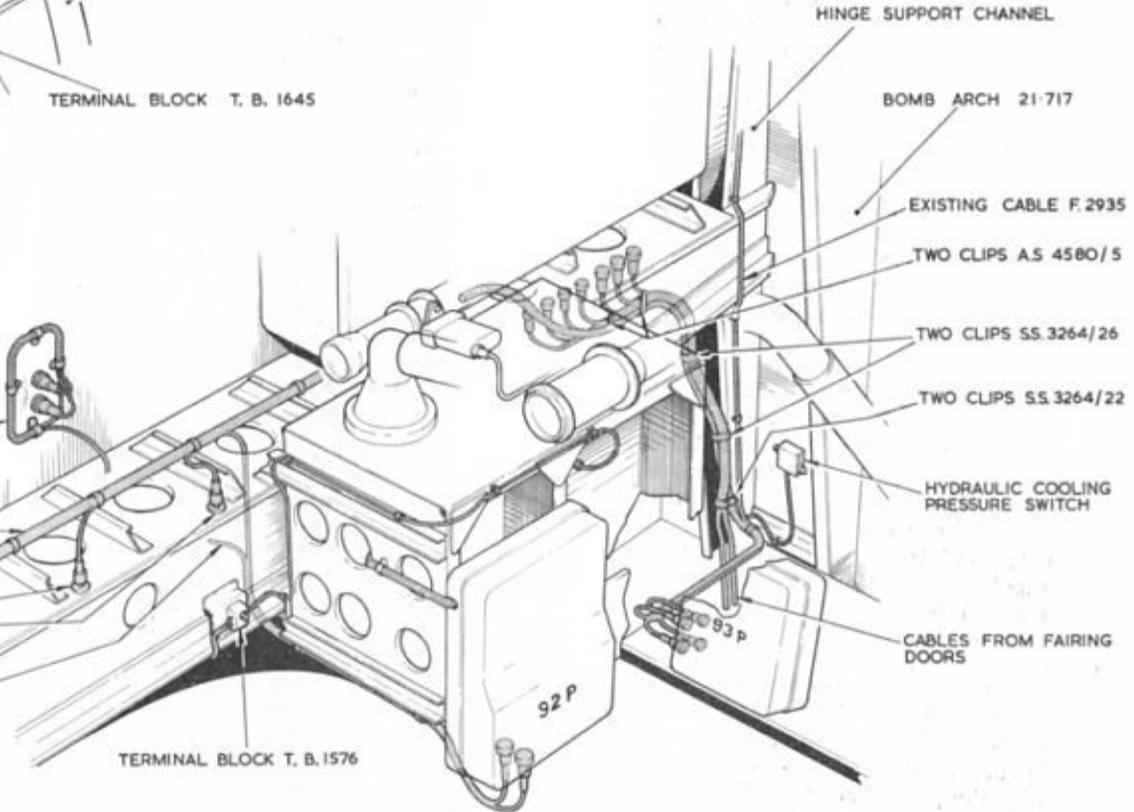

Fig. 8. Details of electrical installation
- (24) Secure the cables F3084 and F2926 to the bracket fitted on the starboard side of the forward crutch structure, using clip AS.4580/3, and coil the cables pending connection to the hydraulic unit as detailed in para.45.
- (25) Continue to route cables 3 and 4/F2929 and 3 and 4/F2931 across the beam and downwards through the lightning hole positioned second from the starboard end of the beam. Continue the cable run across the forward face of the beam and downward on the starboard bomb door hinge support channel at station 7-47. Temporarily secure the cables to the bracket fitted to the outboard angle on the beam forward face, and to the two brackets on the support channel using clips as shown in fig.8.
- (26) Locate the existing cable F2935 which is stowed on the starboard bomb bay rib forward of bomb arch 21-717 and release from the stowage.
- (27) Compare the tail lengths of cables 3 and 4/F2929 and 3 and 4/F2931 with that of cable F2935 and set accordingly.
- (28) Route branch cable 4/F2929 back along the cable run and connect to the earth point located on top of the mechanism beam, starboard of the aircraft centre line.
- (29) Obtain cable F2826 and connect to the hydraulic cooling pressure switch, mounted between the front spar and bomb arch 21-717.
- (30) Secure the cables F2935, 3 and 4/F2929, 3 and 4/F2931 and F2826 to the rib stiffener between the
hinge support channel and bomb arch 21-717 as shown in fig.8. Coil the cables pending connection to the refrigeration pack, as detailed in para.44.
- (4) Secure the cables using the clipping provided for the run of cables to panel 93P as shown in fig.8.
- (5) Release the cable assemblies, which are stowed at the centre of the starboard fairing door, and route the cables upward and rearward below junction box 97P. Secure the cables to the stiffener below junction box 97P using clip AS.4580/5.
- (6) From this group locate cable assemblies F3056, F3057, F3070 and F3066 and connect to plugs 857, 856, 855 and 995, respectively, mounted on the bottom of junction box 97P.
- (7) Locate cable assemblies F3051 and F3196 and connect as follows:-